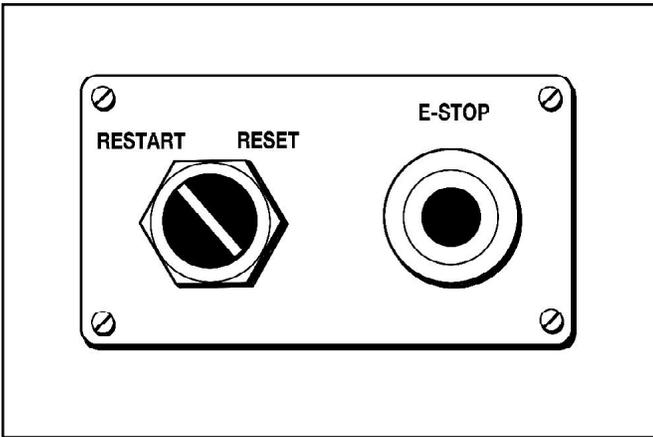

Figure 4.2- Remote Station
- 1. Remote Station** - One remote station is included with the *PosiWeave* Control. (See Figure 4.2) Additional remote stations can be added, particularly at the rear of the machine if the operator will be removing rolls.